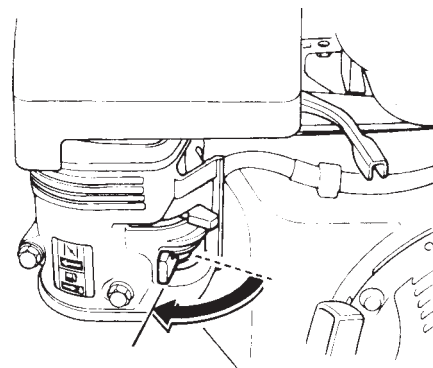

Figure 22. Fuel Valve Lever (OFF)
5. Place the **fuel shut-off lever** (Figure 22) in the **OFF** position.